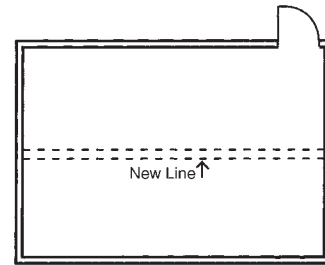

Fig. 24 - Adjust center line
- It may be necessary to adjust the center line to avoid small border pieces at side walls. To do this, measure the distance between the center line and the side wall. Divide the measurement by the plank width (4 1/2"). If the remainder is less than half a plank width, adjust the center line one half the width of a plank in either direction (Fig. 24).